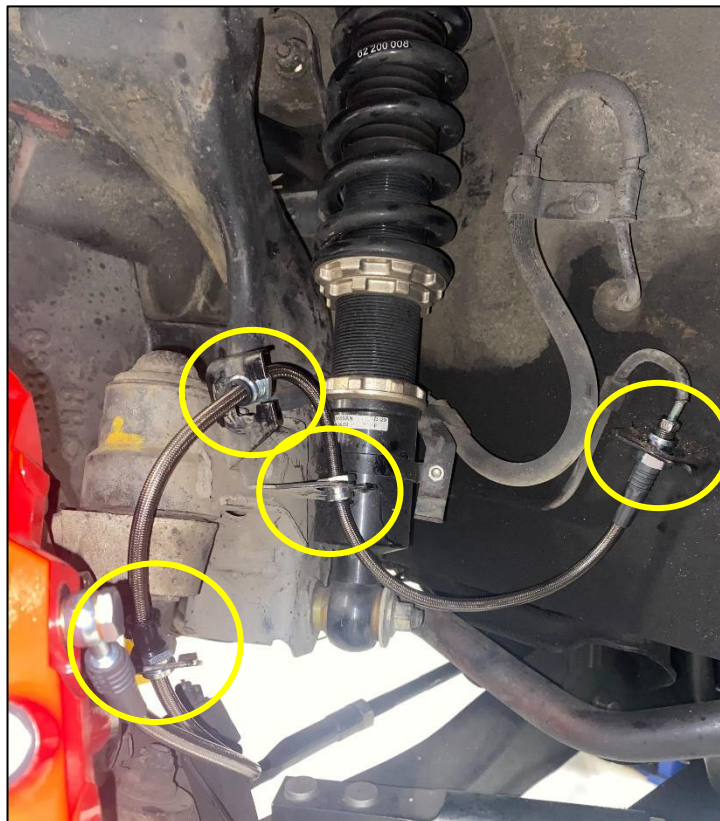

Figure 8
17. If you are NOT installing new Stainless Steel Brake Lines, skip to *Step 20*. Remove the OEM Brake Line. It will be held on by (4) four Retaining Clips. Remove the Retaining Clips with Pliers and unbolt the Soft Line from the Hardline on the Frame. More Brake fluid will most likely leak out. *Figure 8*.